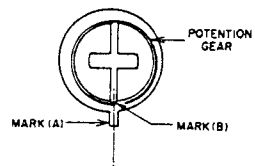

Fig. 3-15
- 1) Attach the position potential volume to the capstan holder and attach the potentiometer gear. Attach the capstan holder to the motor block and tighten the securing screws. Align the mark on the potentiometer gear with the groove in the motor chassis as shown in Fig. 3-15.